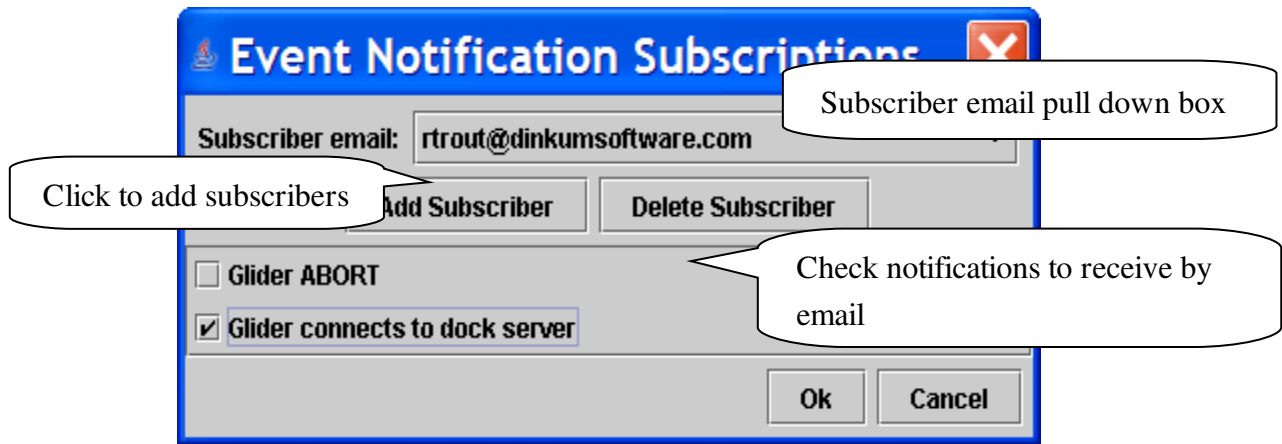

Figure 4-9. Event Notification Subscriptions Dialog.
2. From the subscriber email pull down box in the Event Notifications Subscriptions dialog, select the Subscriber email to receive glider event notifications (Figure 4-9).